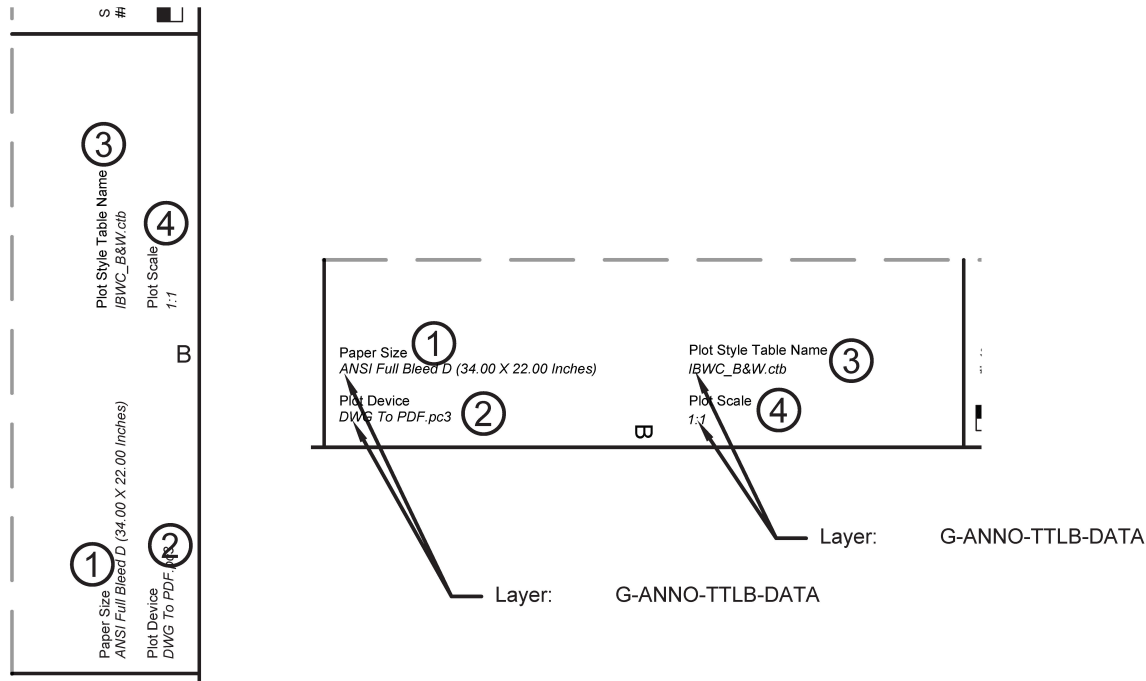

Figure 32-USIBWC Border: Plotting Information
4.10. PLOTTING INFORMATION (FIGURE 32)